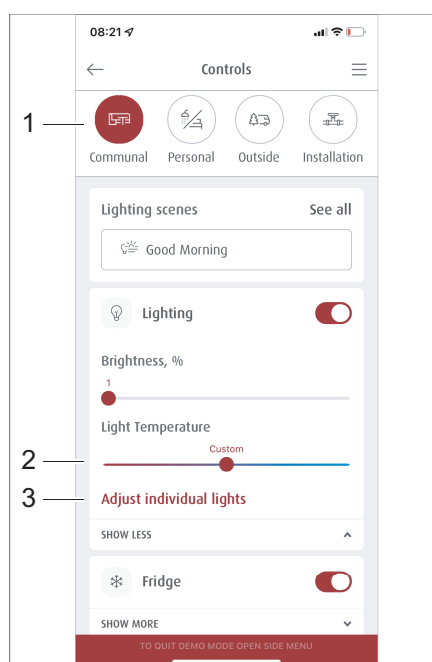
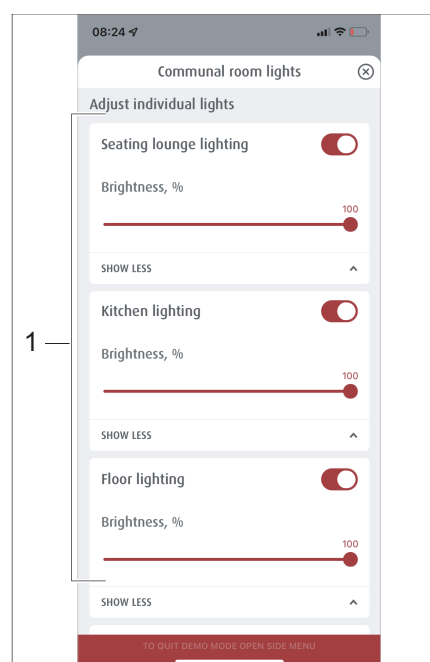

Fig. 304 Selecting preset scenarios
Fig. 305 Managing scenarios
- In the *Operation* menu, click on the *Living* (Fig. 304,1) button.
- In the *Living* menu, click on the *Set lights individually* (Fig. 304,3) button. The *Set lights individually* menu will open (Fig. 305).
- Select the desired lighting from the available options (Fig. 305,1) and use the sliding bar (Fig. 304,2) to set the light temperature.